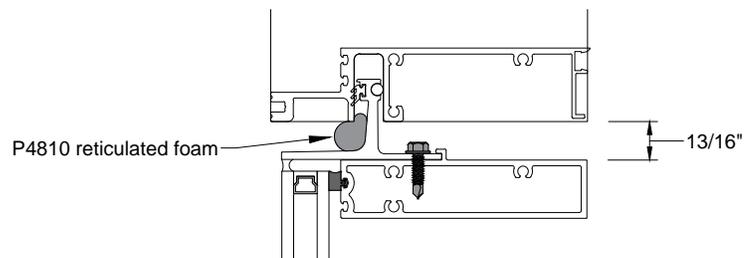

Fig. 54.3
- xvi. Install P4810 reticulated foam under each vertical mullion at the chicken head. Hold in place with a dab of silicone. See Fig. 54.3.